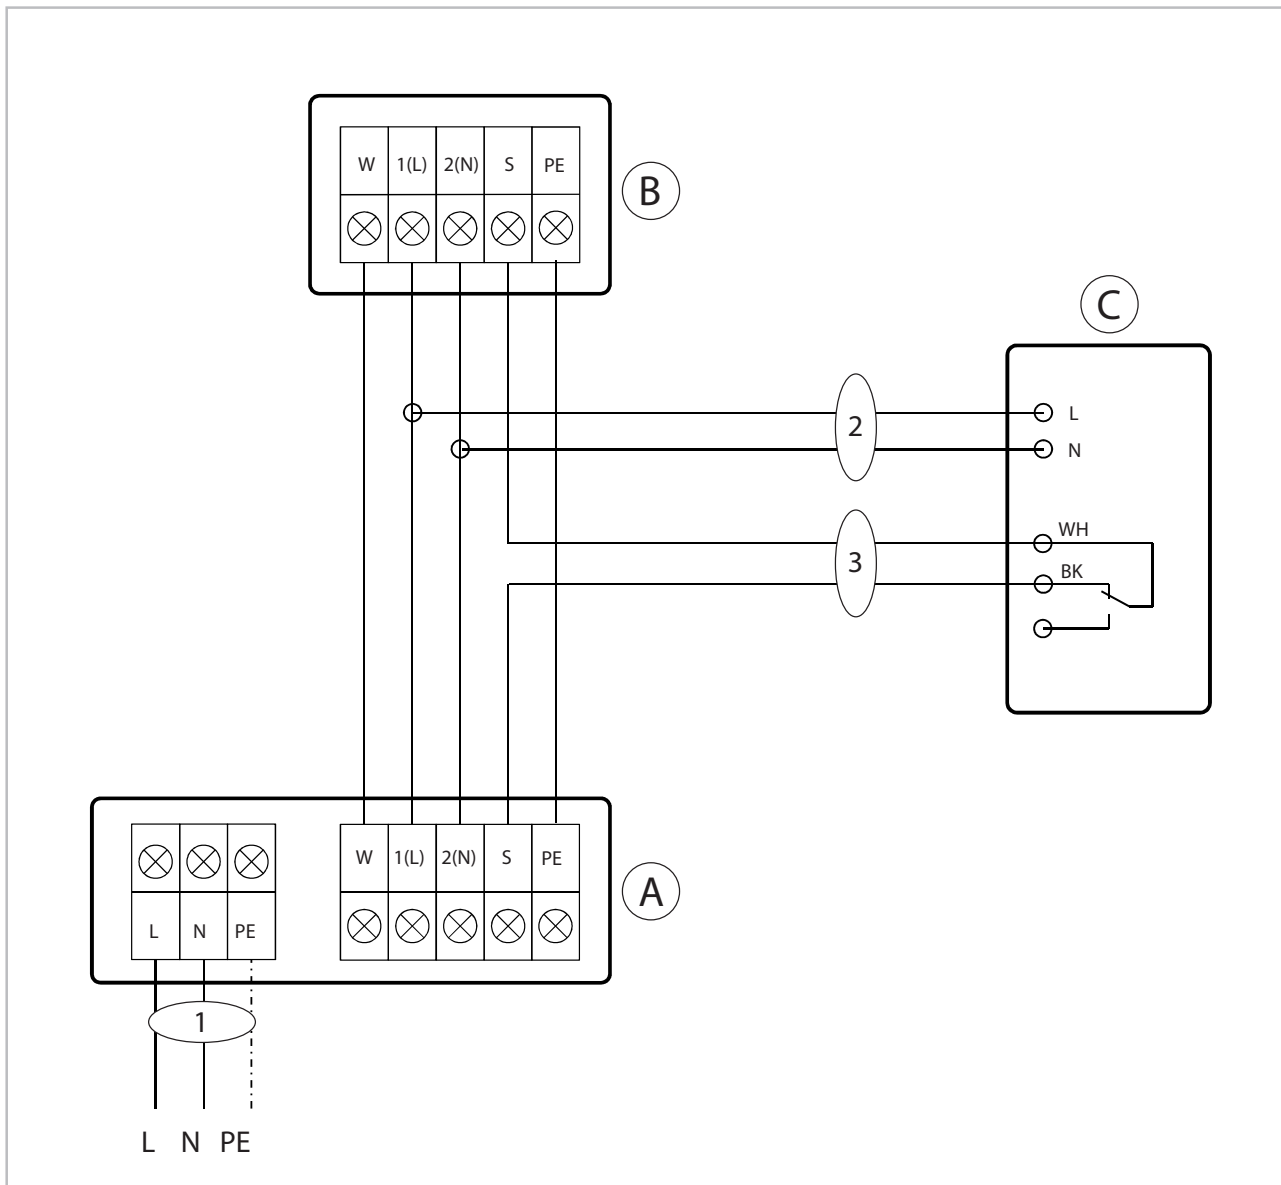

Fig. 42: Electrical wiring diagram
- If a condensate pump, available as an accessory, is used in conjunction with the unit, it may be necessary to install an additional relay with a higher contact rating after the switch-off contact on the pump to switch off the compressor (see Fig. 42).